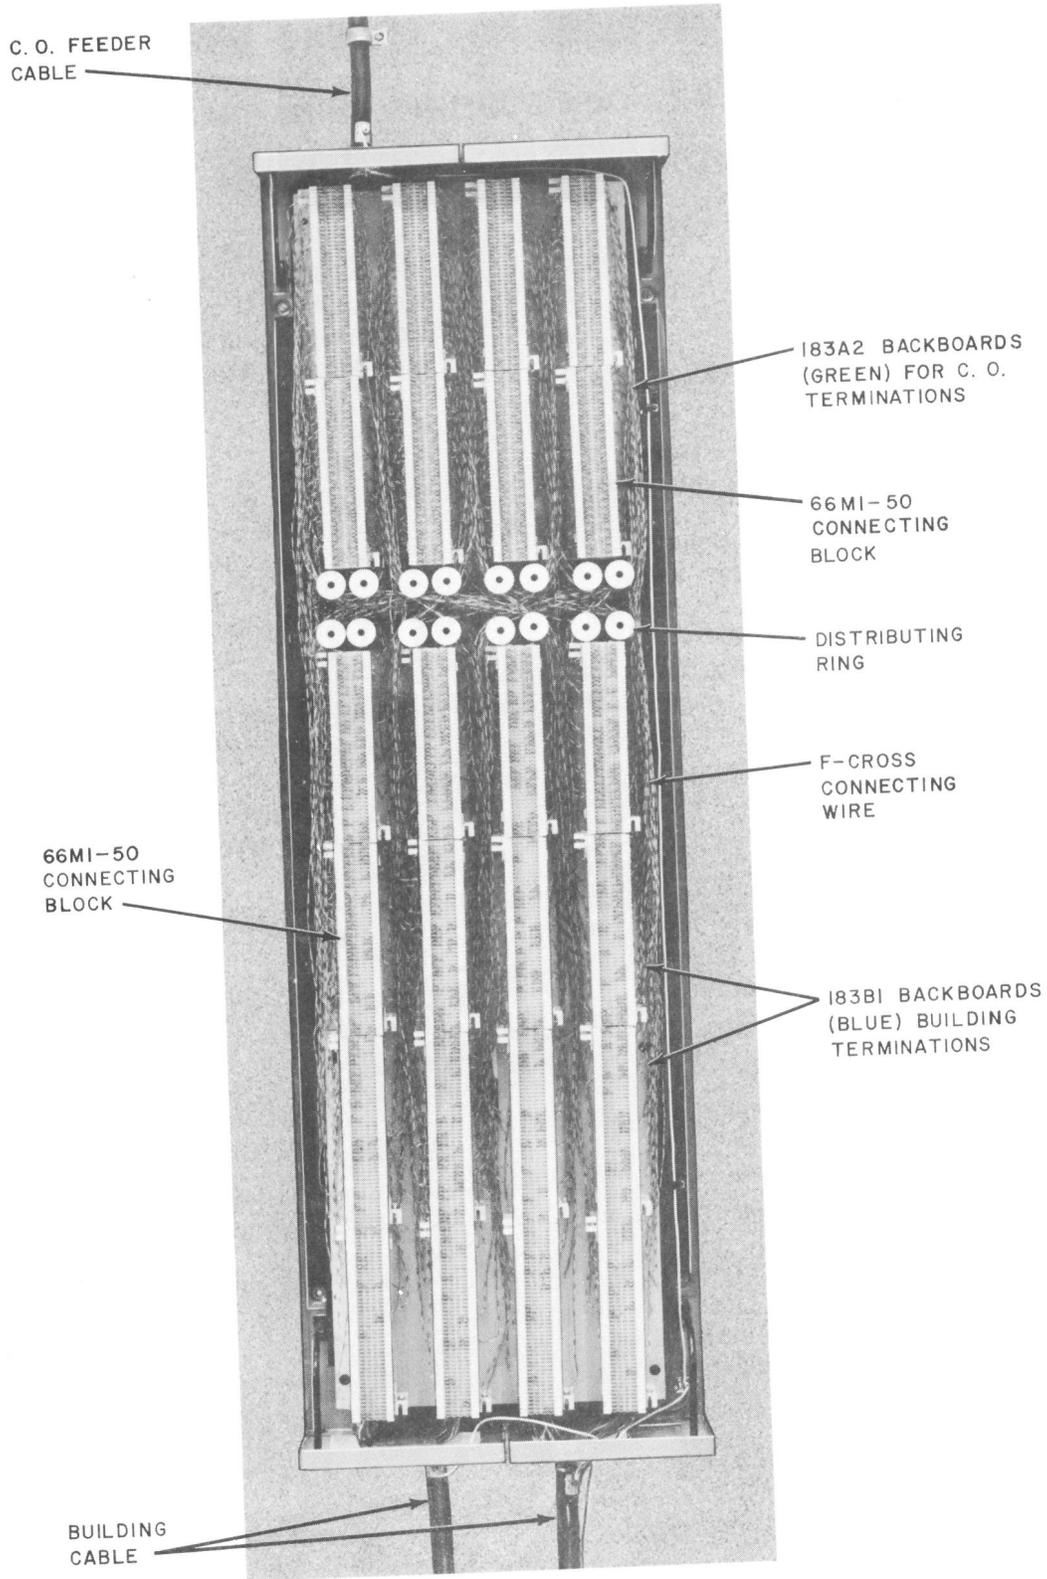

Fig. 1—Unprotected Terminal—400 Pair Entrance Cable Two 400 Pair Building Cables
2.02 A main terminal with cross-connecting wires running between the connecting blocks on which the C.O. feeder cable terminates and the connecting blocks on which the building cable terminates is illustrated in Fig. 1.